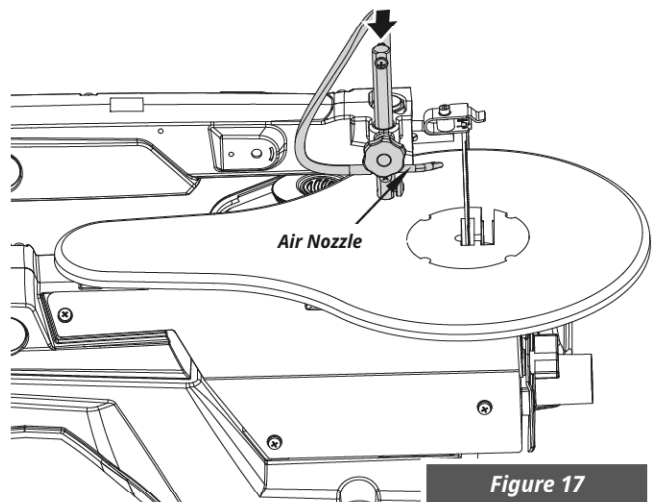

Figure 17
6. Lower the drop foot to the original working position. (See Figure 17)